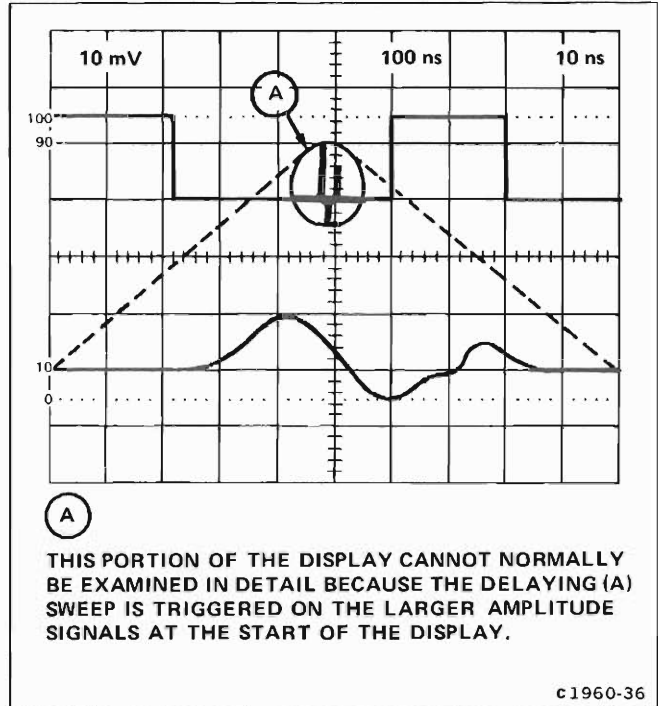

Figure 2-9. Magnifying a selected segment of the delaying (A) sweep in the delay-time mode with mainframe alternate or chopped horizontal operation.
5. To magnify a selected segment of the delaying (A) sweep waveform and determine apparent magnification in the delay-time mode:
- b. Set the appropriate triggering, position, deflection-factor, and sweep-rate controls for the desired dual-trace display. See the example in Figure 2-9.
c. Turn the DELAY TIME control to position the intensified zone to the portion of the delaying (A) sweep waveform to be magnified.
d. Set the delayed (B) sweep unit sweep rate to select the desired duration of the magnified display as indicated by the length of the intensified zone.
e. Observe the magnified display on the delayed (B) sweep. See Figure 2-9.
f. Determine apparent magnification by dividing the 7B15 TIME/DIV setting by the delayed (B) sweep unit sweep-rate setting.
Example: The apparent magnification of the delayed (B) sweep shown in Figure 2-9 with a 7B15 TIME/DIV setting of .1 millisecond and a delayed (B) sweep unit sweep-rate setting of 1 microsecond is: